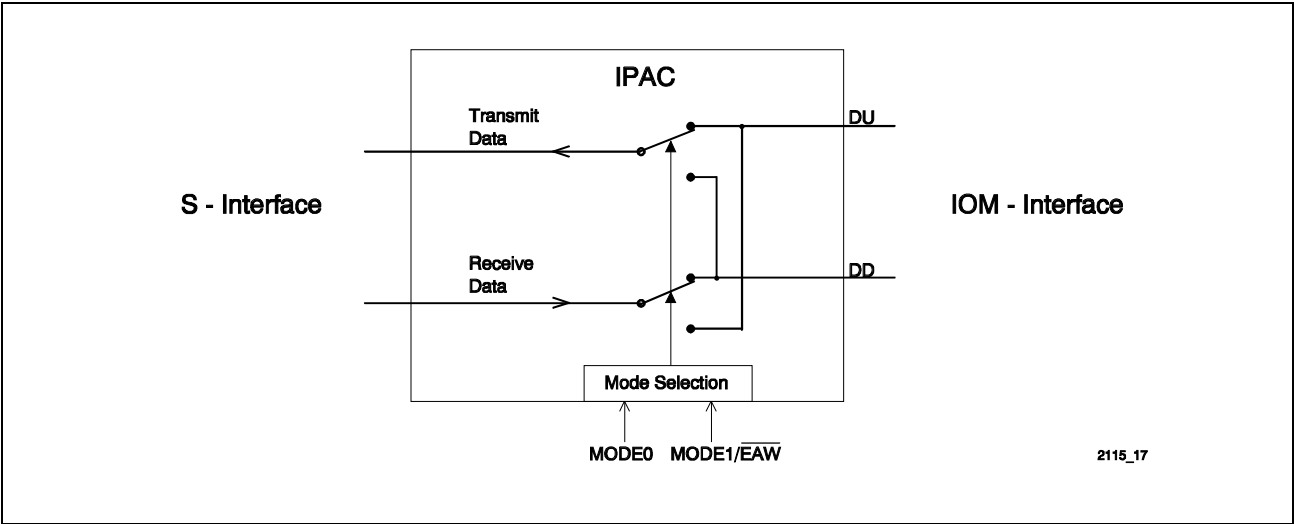

Figure 21 Data Path Switching
The S-transceiver supports terminal mode (TE), line termination subscriber side mode (LT-S) and line termination trunk side mode (LT-T). The selection is performed by two mode pins (see **table 4**), additionally the B-channel receive and transmit data paths are switched to DU or DD line depending on the mode (**figure 21**). In other words, the DU line always carries data which is transferred from the subscriber to the central office and the DD line carries data which comes from the central office to the subscriber. Therefore the direction of DU and DD is mode dependent: